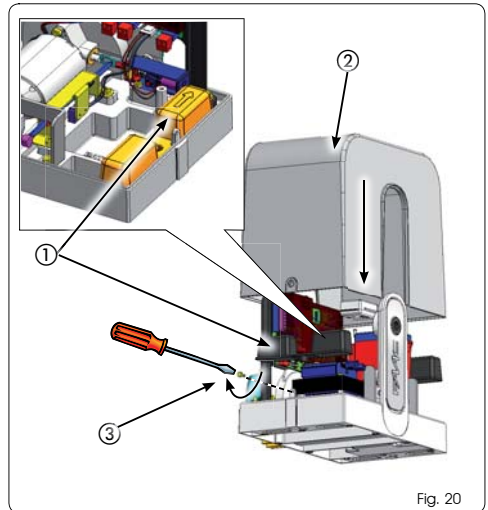

Fig. 20
Once the operator has been installed, carry out a thorough operational check of all accessories and connected safety devices. Press-fit the plastic covers of the operator fastening bolts, ensuring that the arrow is facing the gate (Fig. 20 re. ①), insert the cover casing (Fig. 20 re. ②) and fasten it by the two suitable side bolts (Fig. 20 re. ③). Give the Customer the "User Guide" and explain the correct operation and use of the gearmotor, highlighting potential high-risk areas of the automated system.